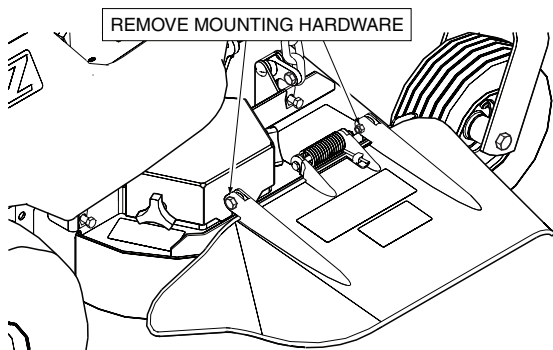

Figure 2-1. Discharge Chute Removal
2. Remove the discharge chute from the cutter deck. See Figure 2-1.